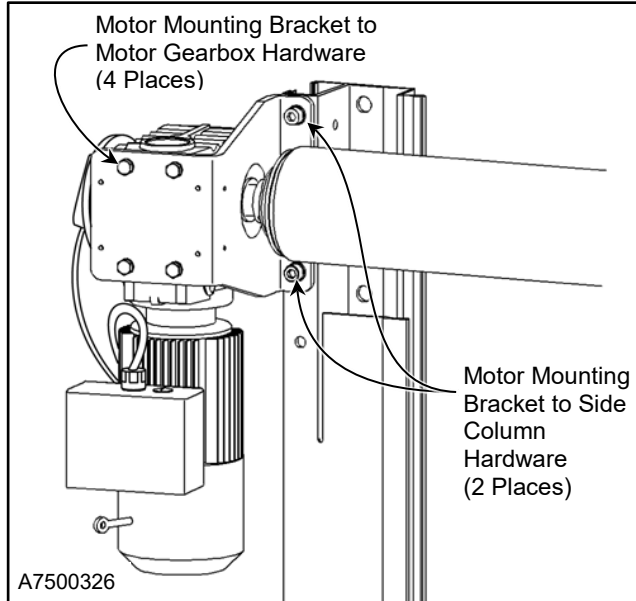
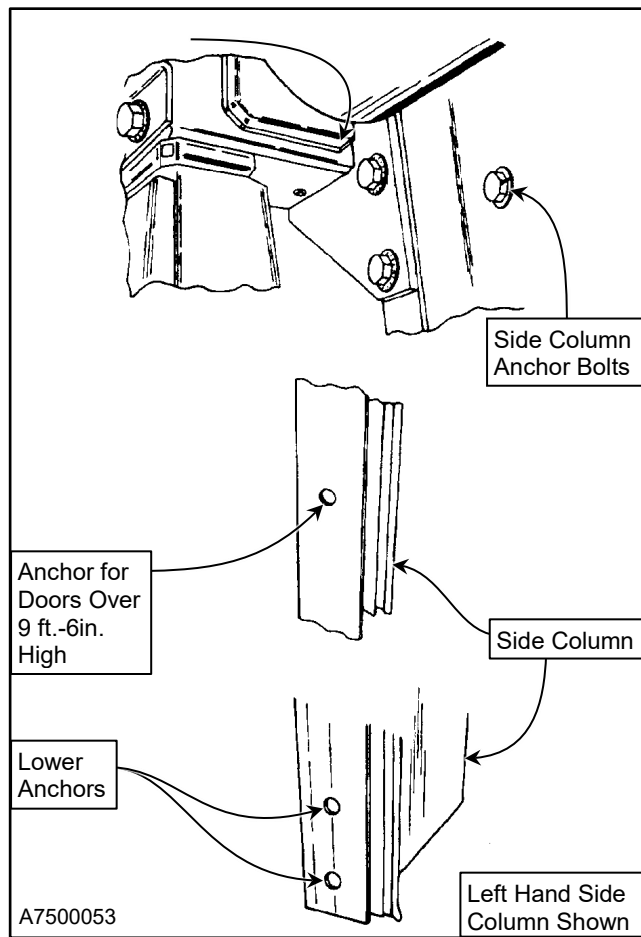

Figure 14
Figure 16
Check all mounting hardware to ensure all nuts, bolts, set screws, and anchors are tight. Example: motor mounting hardware, anchor or through wall bolts, bearing block, mounting hardware, etc. (See Figure 14 - Figure 16)
4. Inspect all nuts, bolts, threaded rods, and anchors used to secure the side columns to the wall. Tighten any loose hardware. Replace any missing or damaged hardware as required. (See Figure 16)